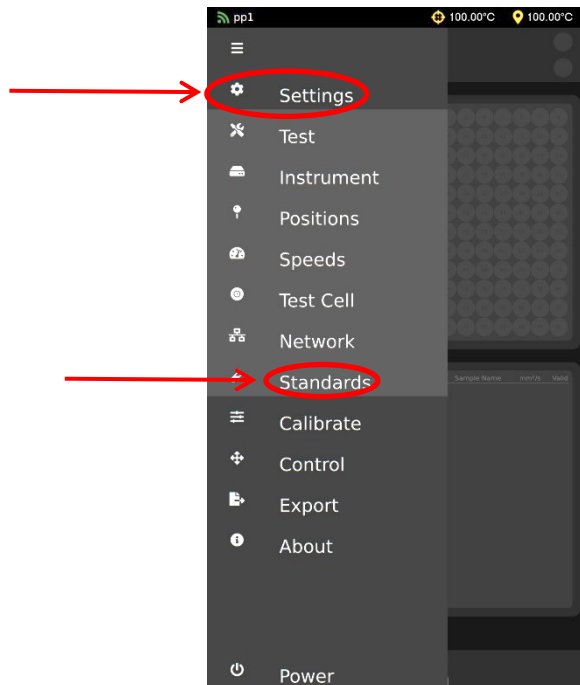

Figure 22: UltraVIS Menu/Settings
2. From the **Main Menu Screen**, select **Settings**. From the **Settings Menu**, select **Standards**. See Figure 22.